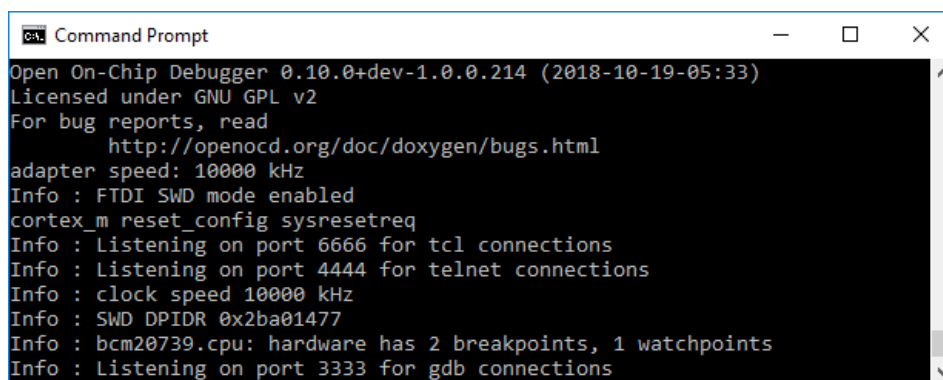

Figure 5-3. Verifying Installation
5. You should see a result as shown in Figure 5-3.